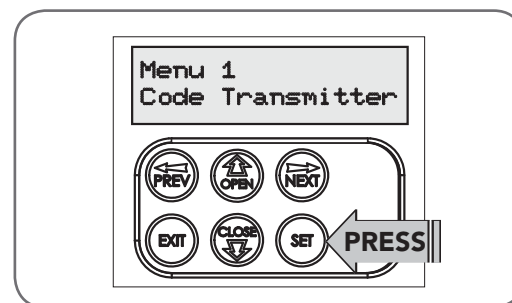

Fig 8.2
- Press SET to enter the code set procedure (**Fig. 8.2**).
- Select left or right installation side by pressing open button for the correct side (**Fig. 8.2**).